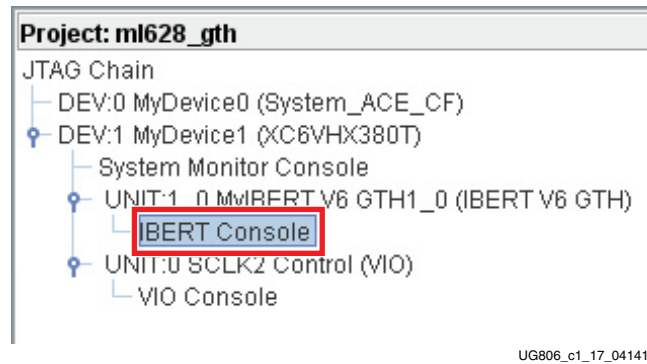

Figure 1-17: Project Panel - IBERT Console (GTH)
9. In the project panel, double-click **IBERT Console** (Figure 1-17).